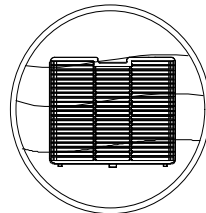

Fig.2
2. Gently clean the filter with a vacuum cleaner to remove dust. If necessary, wash the filter with warm soapy water **DO NOT USE ALCOHOL, BENZENE OR OTHER AGGRESSIVE PRODUCTS** (Fig.2). Leave the filter to dry naturally, then insert it back into its housing (Fig.3). Do not use hair dryer or fire to dry the filter. Do not use sponges or brushes to clean the filter as they can damage it.